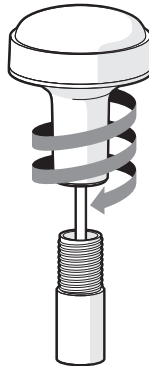

Figure 8 External GNSS antenna mounting
- Feed the ten metre long cable attached to the GNSS antenna cable through the pole and screw the antenna onto the pole mount as shown in Figure 8.